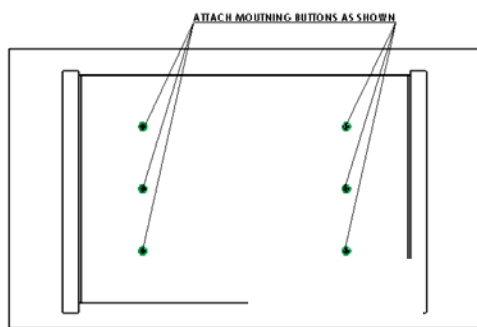
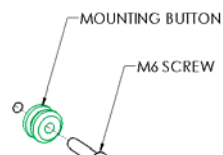

Figure 2
Figure 3
1. Attach mounting buttons to display using six M6 cap screws provided (see Figure 2 and Figure 3).